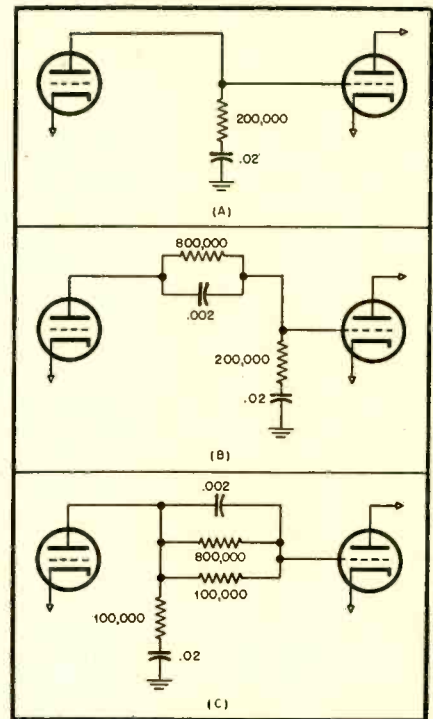

Fig. 2
With the potentiometer arm at the tap point the circuit appears as at (A) in Fig. 2, since the 800,000-ohm portion of the potentiometer and its shunt capacitor are shorted out. The .02- $\mu$ f capacitor has very little effect on frequency response.
At (C) in Fig. 2 is shown what happens when the potentiometer arm is moved below the tap, for instance to the point where